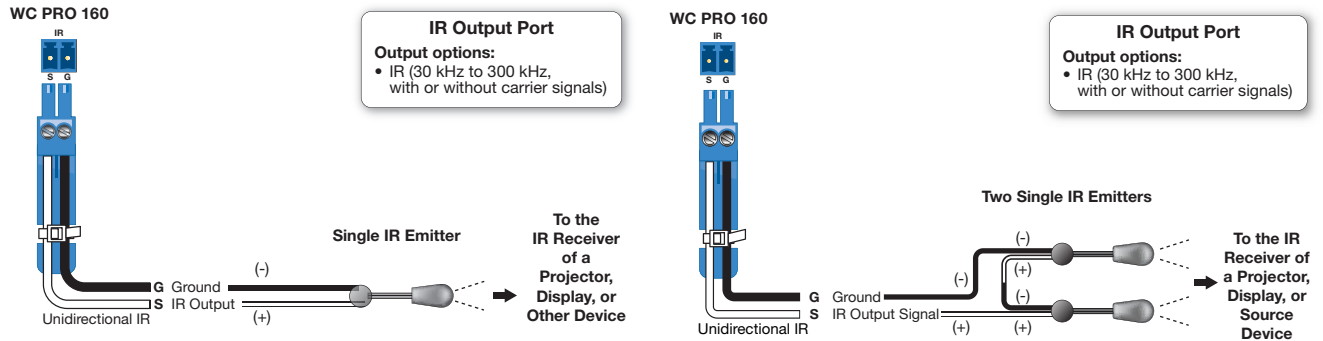

Figure 6. Connecting IR Emitters to the IR Port
- F IR control port** — To control displays via infrared (IR) commands from the WC Pro 160, connect a single or dual IR emitter to this port, with a maximum of 50 feet (15 m) distance from port to emitter (see figure 6 on page 6 for wiring instructions). The IR port provides unidirectional IR signal output to control a display.
- **IR control** — Connect one or two single IR emitters or one dual IR emitter to the S and G pins of the IR connector (see figure 2, F on page 2), with a maximum of 50 feet (15 meters) from port to emitter. The port provides unidirectional IR signal output to control a display, projector, switcher, or other device. Figure 6 shows a single and dual IR emitter connected to the IR port of an WC Pro 160.